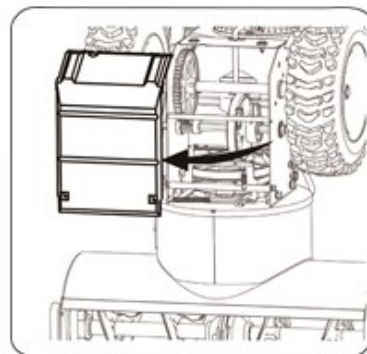

Fig.28
2. Carefully tilt the snow blower up and forwards so that it rests on the auger housing. Remove the screen from the underside of the snow blower by removing four self-tapping screws that secure it. See figure 28.